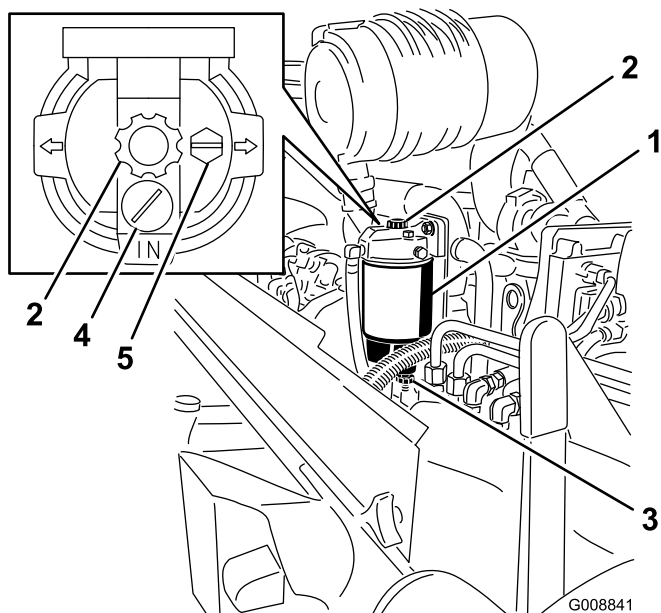

Figure 62
1. Place a clean container under the water separator (Figure 62).
2. Open the drain plug and operate the pump to drain contaminants (Figure 62).
2. Drain some fuel by loosening the vent plug and opening the drain plug (Figure 62).